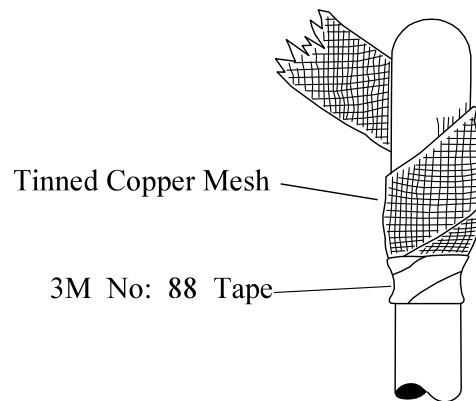

Fig 6
- 8.14. Using tinned copper mesh apply a 50% lapped layer starting 15mm on the PVC oversheath and work towards the cable end ensuring a complete enclosure. Secure both ends using the 3M No 88 tape, thereby effectively earth screening the stop end - Fig 6.